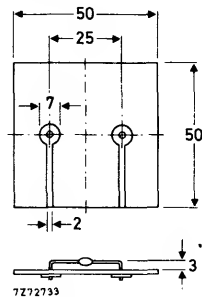

Fig. 4 Mounting method 3.
3. Thermal resistance from junction to ambient when mounted on a 1,5 mm thick epoxy-glass printed-circuit board; Cu-thickness  $\geq 40$   $\mu\text{m}$ ; Fig. 4